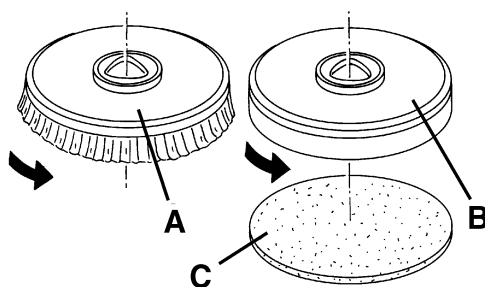

Figure 2
1. According to the kind of cleaning to be performed, the machine can be equipped either with the brush (A, Fig. 2) or the pad-holder (B) with pad (C) together with the appropriate deck.
2. (Only for **BA 451D** and **BA 531D**): Insert the ignition key (80) and turn it to "0".